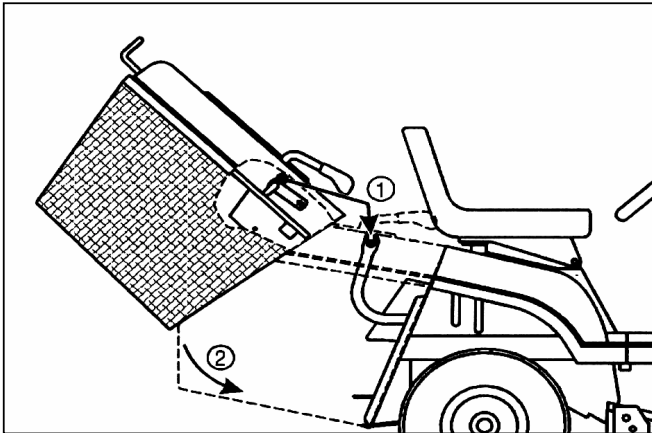

Fig. 6
PLACING THE GRASS COLLECTOR ON THE TRACTOR (Fig. 6).
1. Lift the grass collector assembly with both hands. Slant it to an angle of approximately 40 degrees (Fig. 6).